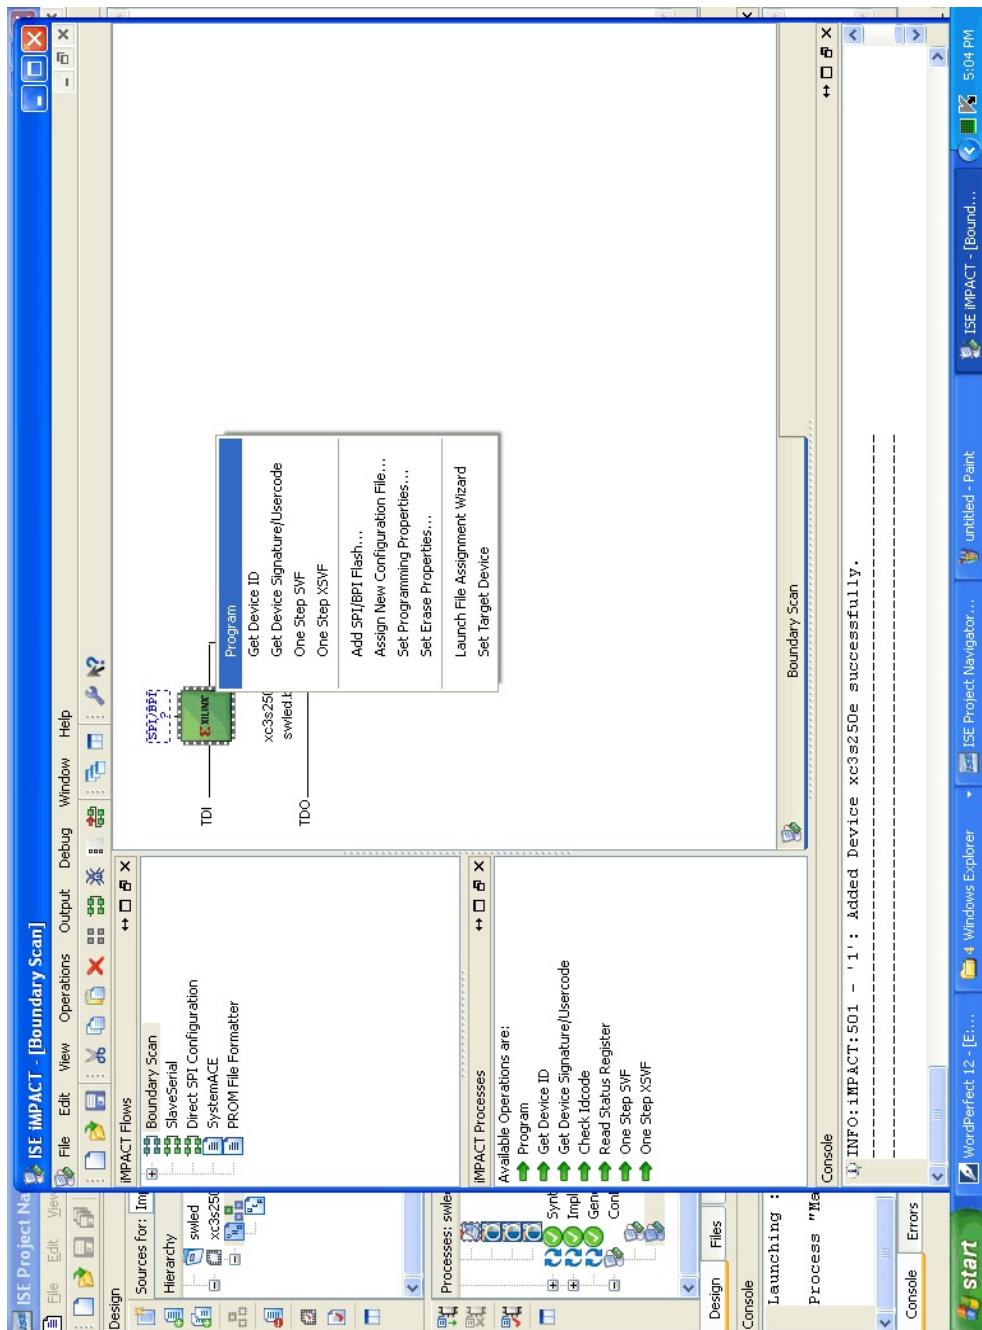

Figure-37
15. Right Click the chip **xc3s250e** and select **Program** (Refer **Figure-37**).